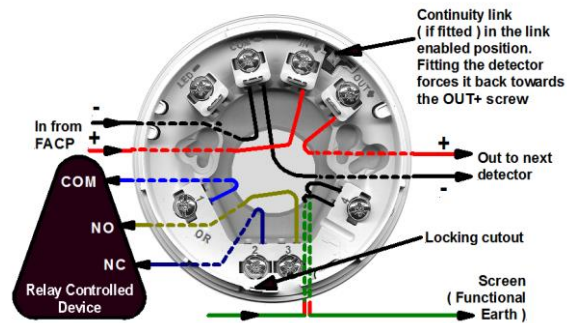

Figure 1: Wiring Diagram
4. Cable to the base as shown in Figure 1. The terminal marked '4' on the base is provided for connecting the screen or functional earth.